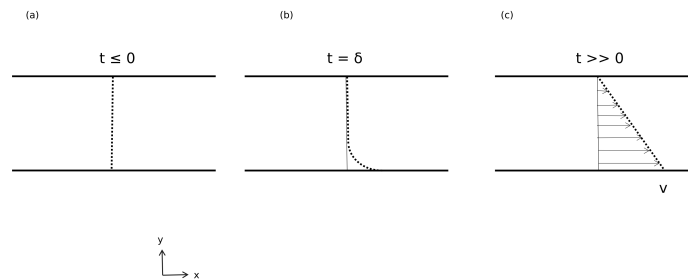

Figure 1.1: Fluid between 2 plates
- Consider two parallel plates : one placed at  $y = 0$  and the other placed at  $y = Y$  as shown in figure 1.1, with a static fluid between them. Here we assume these plates are basically infinitely long and wide so that the fluid doesn't move. Figure 1.1(a) shows how the fluid velocity is 0 at every point between the two plates.
- Now, let us see what happens when we begin to translate the bottom plate to the right. Assuming there is no slip between the fluid and the plate, i.e. that the fluid that comes into contact with the solid is "stuck" to it. At the molecular scale, this is because we consider adhesive forces of attraction between molecules of the fluid and the solid are stronger than the cohesive forces of attraction among the molecules of the fluid themselves. So when we move the bottom plate, the molecules in contact with it start to move along. Figure 1.1(b) describes a snapshot of the system where the molecules "stuck" to the plate have just started to move but the molecules above them haven't been impacted yet.
- Over time, the fluid layers begin to pull each other and due to this, momentum gets imparted along the y direction. Figure 1.1(c) showcases the steady-state velocity profile of the fluid. Again, at the top plate the fluid doesn't move since the molecules are assumed to be "stuck" to the plate.